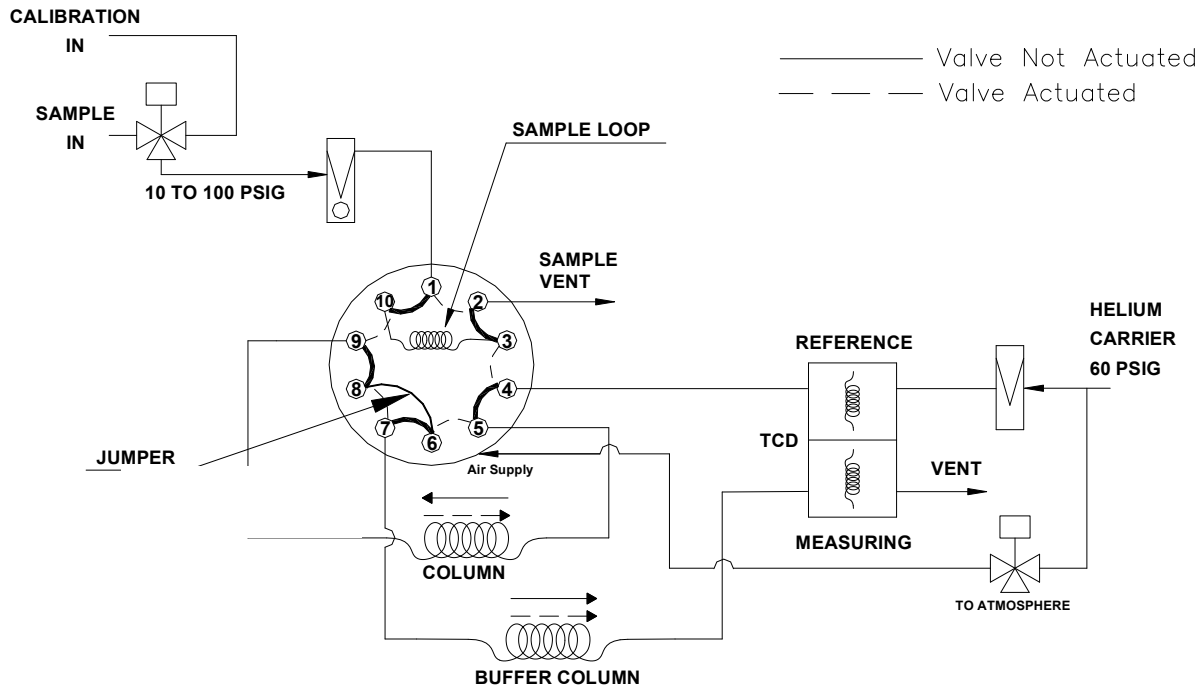
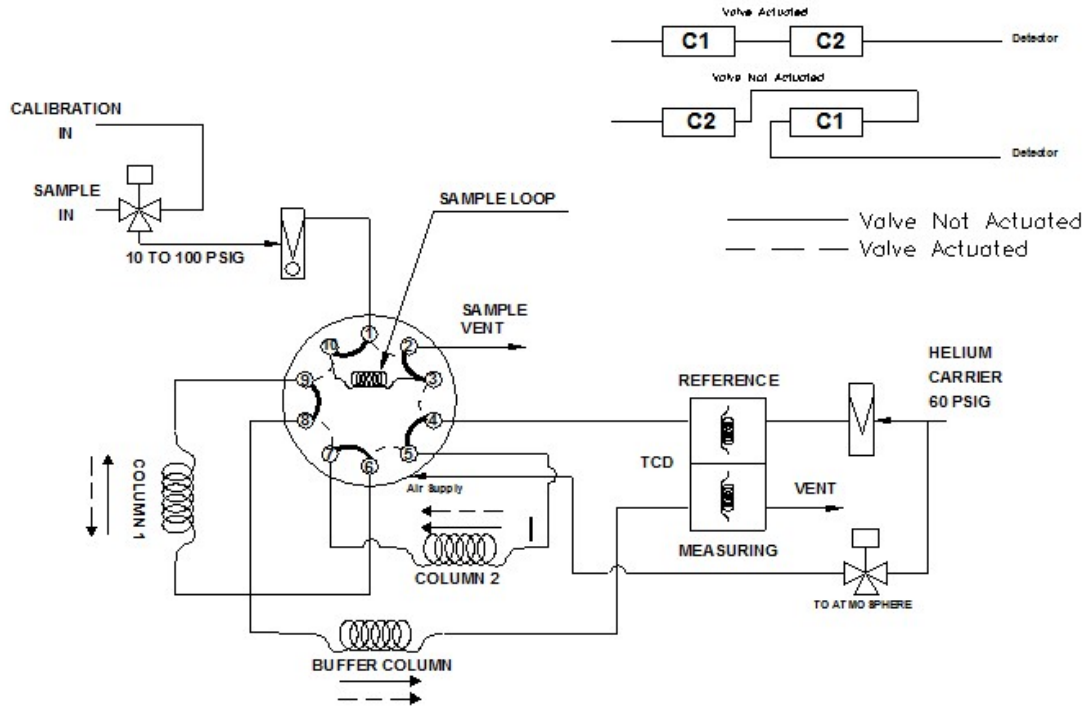

Figure 2-8: Single Column Flow Diagram
Figure 2-9: Two Column Flow Diagram
- The temperature of the chromatograph oven is controlled to minimize retention time shifts due to ambient temperature changes. The gas flow paths for single column and two column configurations are shown in Figure 2-8 and Figure 2-9.